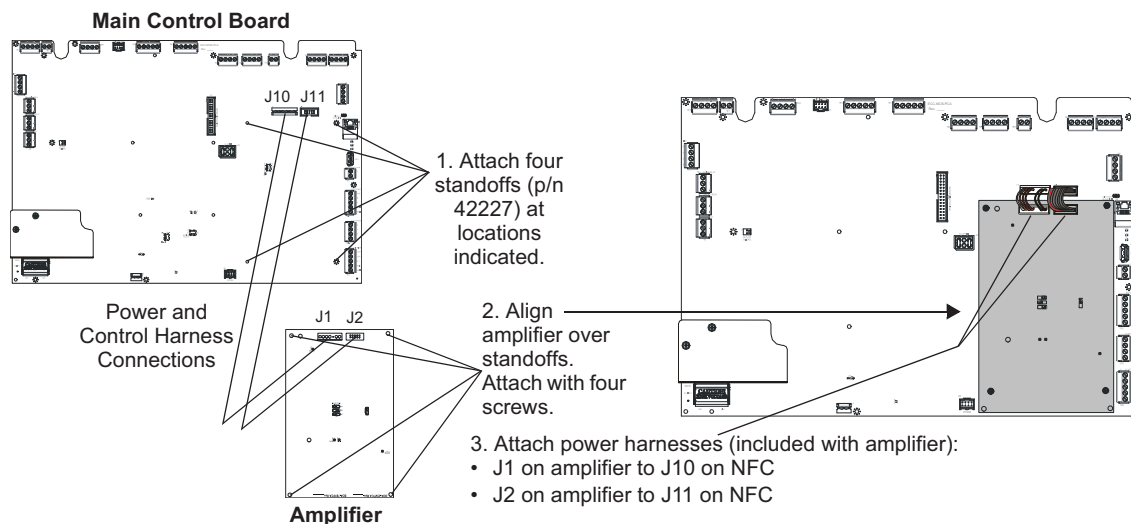

Figure 1 NFC-BDA-25/70V Installation
1. Remove mounting screws shown, from the main control board, and save (refer to Figure 1).